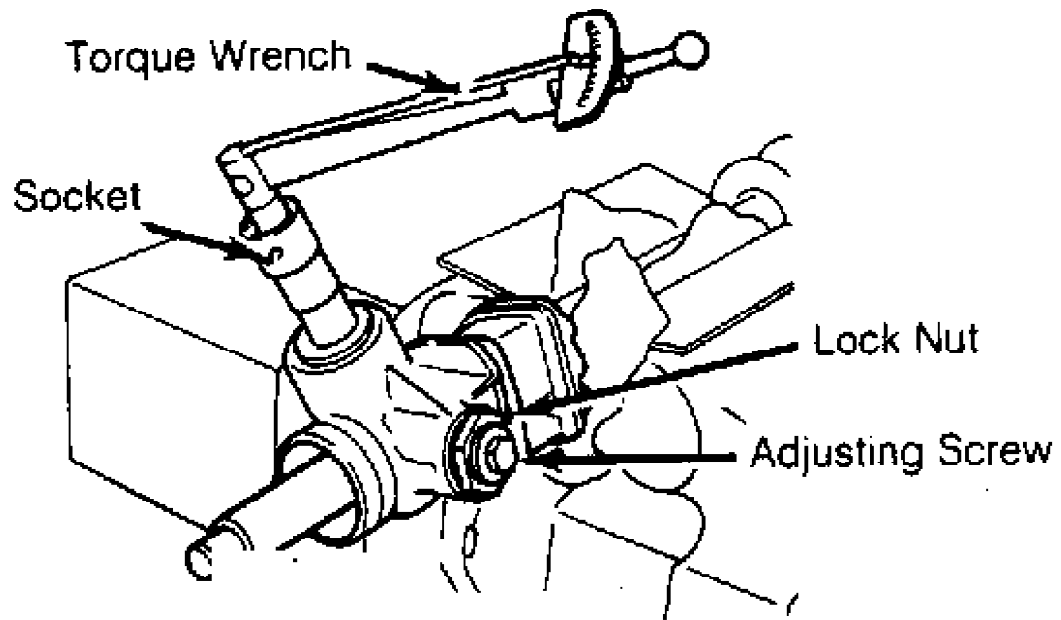

Fig. 2: Measuring Pinion Shaft Rotating Torque
5) Using Socket (KV48101100) and an INCH-lb. torque wrench, check pinion shaft rotating torque. Rotate pinion shaft 100 degrees to each side of center position. Pinion shaft rotating torque should be 6.1-10.4 INCH lbs. (.7-1.2 N.m). See Fig. 2. Holding adjusting screw in position, tighten lock nut to 29-43 ft. lbs. (39-58 N.m).